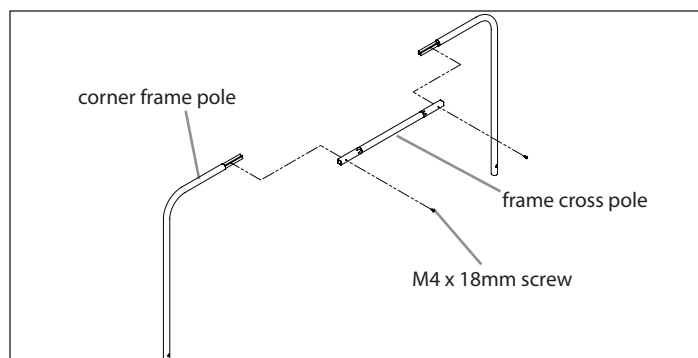

FIGURE 6
11. Start the assembly by locating (2) upper corner frame poles (11239) and frame cross pole (11238). Insert swaged ends of both upper corner frame poles into the frame cross pole. Line up the screw holes provided in both parts and fasten them together using (2) M4 x 18mm screws. Repeat this step and use of hardware to assemble the other two upper frame support poles. **SEE FIGURE 6**